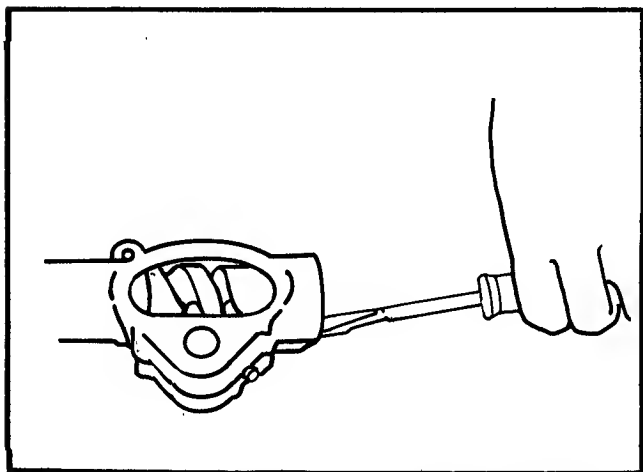

FIG. 2.6 -- SHAFT PRE—LOAD SETTING
3. Install adjusting nut and tighten until steering shaft has a slight bind when turned, Fig. 2.6. At this point adjust nut until shaft has no end-play with no binding when turned. Secure adjusting nut with cotter key.